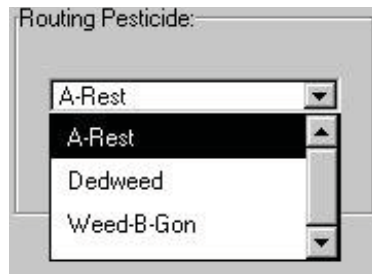

Figure 13.15
- k. **Routing Pesticide.** In this section, the user can select the pesticide that SWAT will route through the channel network during the simulation. A drop-down control provides a list of all pesticides simulated in the HRUs (Figure 13.15).